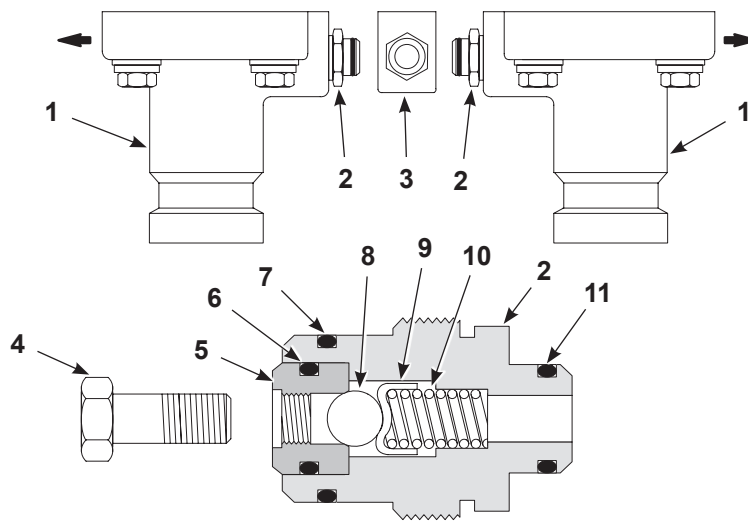

Figure 6-7 Siphon Ball Check Rebuild
3. See Figure 6-7. Pull the hydraulic housings (1) apart and remove the outlet manifold (3) from the ball check cartridges (2).
5. Thread the seat tool (4) into the seat (5). Slowly pull the seat out of the cartridge. Do not let the ball (8), ball cage (9), and spring (10) fly out.